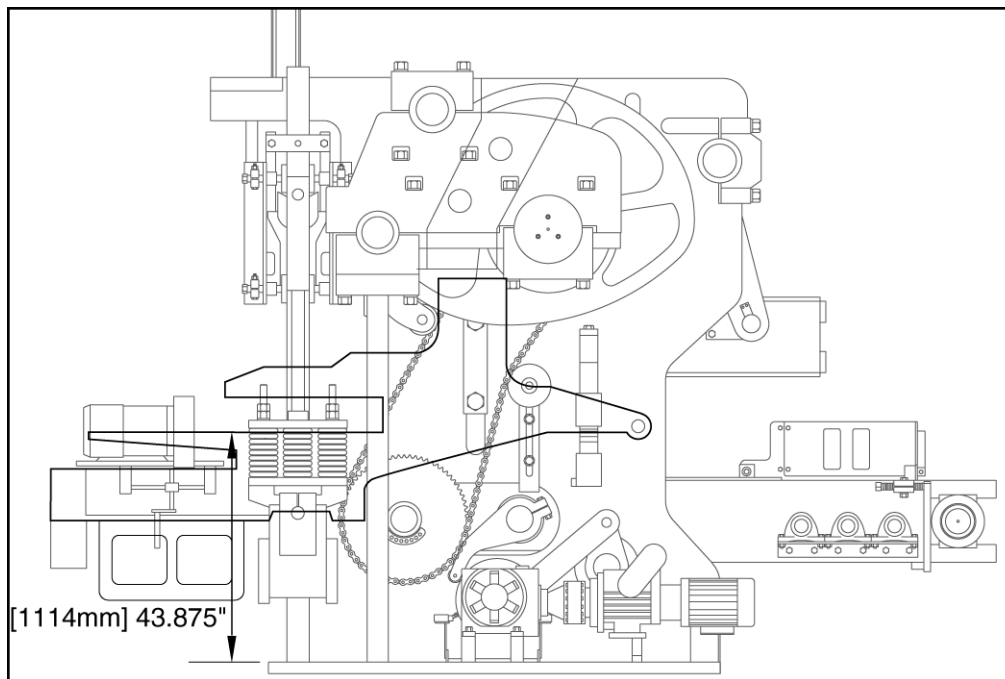

Figure 4.48 INNER FRAME ADJUSTMENT
- 4.4.2 Adjust the inner frame so that the mold throat is **1114mm [43.875"]** above the top on the base plate (figure 4.48). **63mm [2 1/4"]** of spacers required. To do so, follow this procedure: